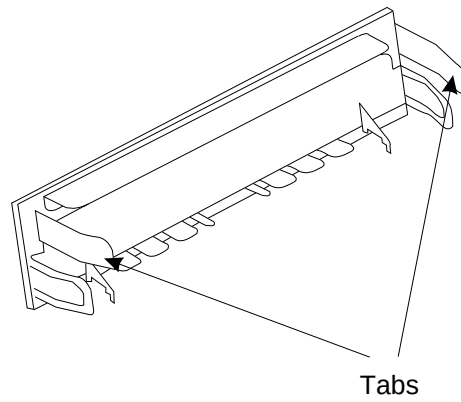

Figure D-31: CD-ROM Filler Panel
2. Remove the top filler panel from the system chassis (see Figure D-31). Press the tabs toward the center of the filler panel, and push the panel towards the outside of the system chassis.